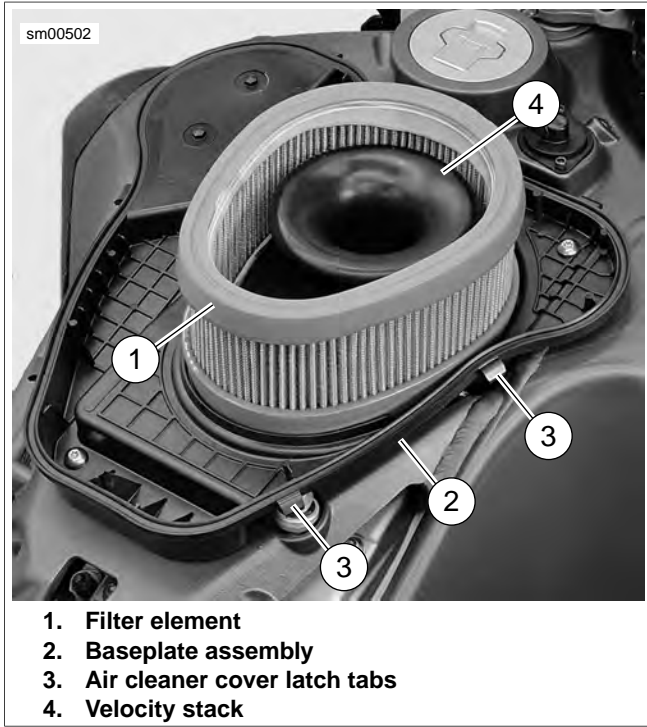

Figure 1-43. Installed Air Cleaner Filter Element
1. See Figure 1-43. Place filter element (1) on baseplate (2).